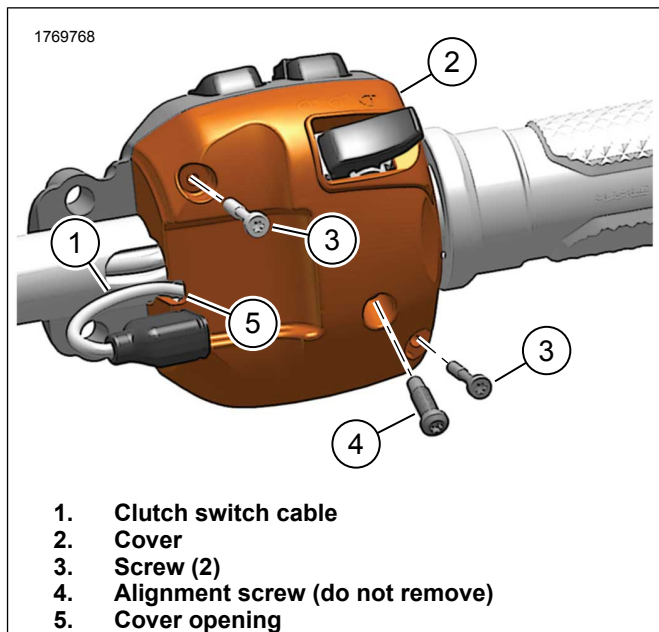
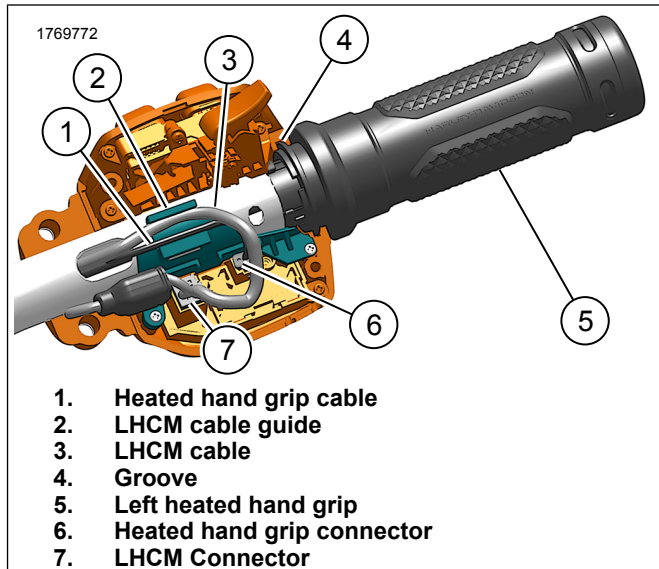
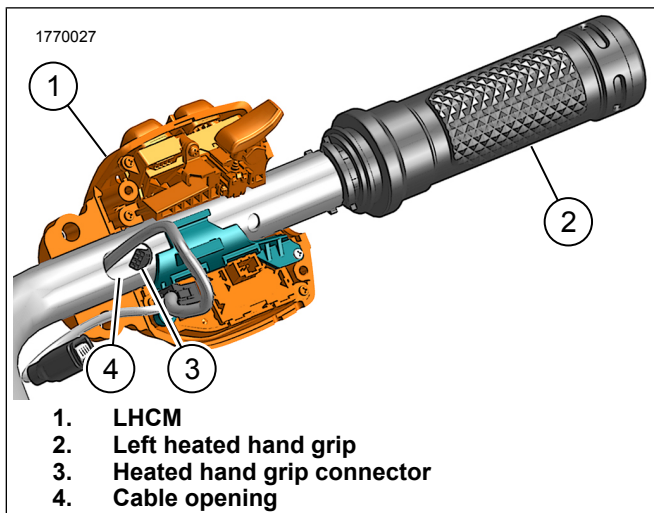

Figure 5. LHCM Cover
Figure 6. LHCM Connections
Figure 7. Left Grip Removal/Install
2. Figure 5 Remove LHCM cover.
- a. Remove screws (3).
- b. Remove cover (2).
3. Figure 6 Disconnect connectors.
- a. Disconnect LHCM connector (7).
- b. Disconnect heated hand grip connector (6).
- c. Remove cables (1,3) from LHCM cable guide (2).
4. Figure 7 Remove left heated hand grip (2) while feeding heated hand grip connector (3) through cable opening (4).
5. Remove LHCM (1).
- a. Feed heated handle bar cable through handle bar while guiding left heated hand grip (2).
- b. Pull heated hand grip connector (3) out through cable opening (4).
- c. Figure 6 Install lip of grip in groove (4) on LHCM.
2. Figure 7 Install LHCM (1) on handlebar.
3. Figure 6 Connect connectors.
- a. Connect heated hand grip connector (6).
- b. Route LHCM cable (3) onto LHCM cable guide (2).
- c. Connect LHCM connector (7).
4. Figure 5 Install cover.
- a. Guide clutch switch cable (1) through cover opening (5).
LHCM and grip will not go together unless pre-assembled as shown in Figure 6.